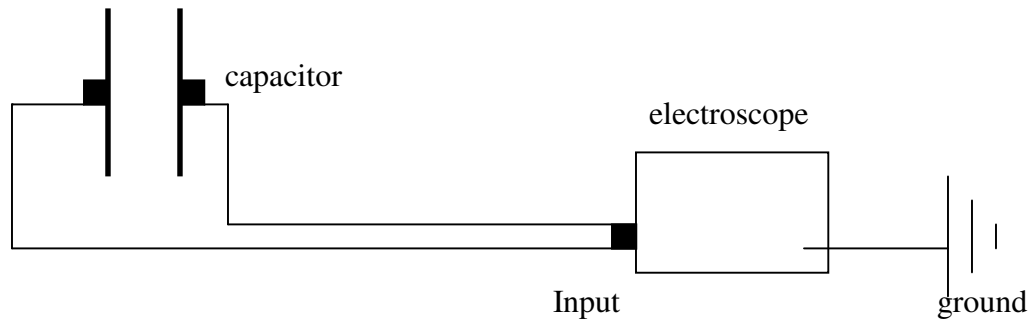

Figure 1: Parallel Plate Capacitor Setup
1. Connect the parallel plate capacitor to the electrometer as shown in Figure 1.